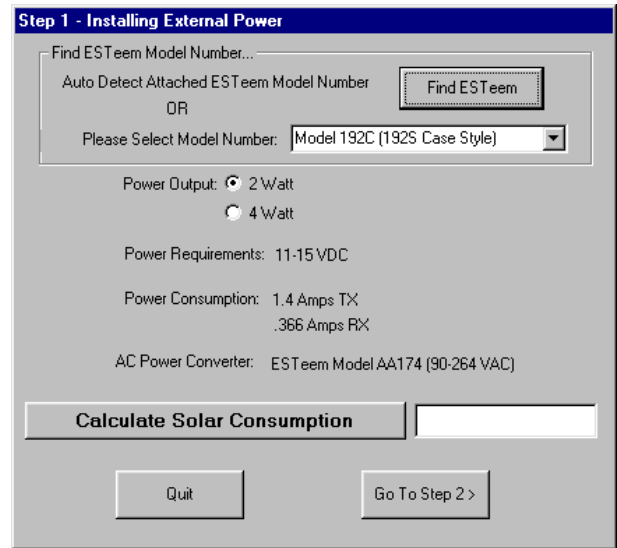

Figure 5: Step 1 - Installing External Power
2. Step 1 – Installing External Power window will be displayed (Figure 5). Select either Find ESTEem or the model number of ESTEem you are programming. The power requirements for that product will be displayed. The ESTEem model AA174 power supply can be used with all ESTEem products. If you are using the ESTEem in a solar power application, press Calculate Solar Consumption button for the Amp/Hours required. Press Go to Step 2 to continue.